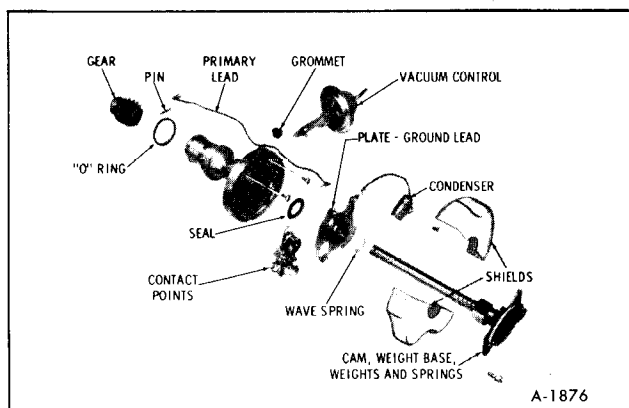

Figure 37—Distributor Disassembled
4. Remove the retaining ring from the upper bushing and lift the breaker plate and felt wick from the bushing. (figure 37)